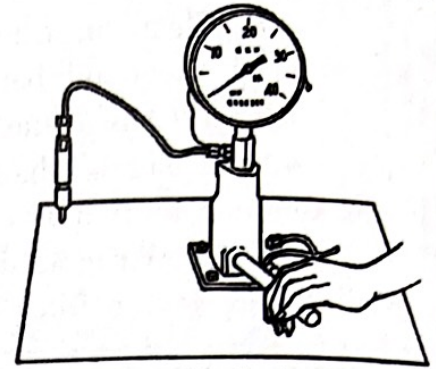

Fig3-16 Check the Injector
4.6 Check the injection pressure and quality of sprayer (see Fig3-16). The opening pressure of J series fuel injection is 19.6 MPa to 20.8MPa. The opening pressure of P series fuel injection is 25 MPa to 26MPa. Clean the soot and adjust the pressure if necessary.